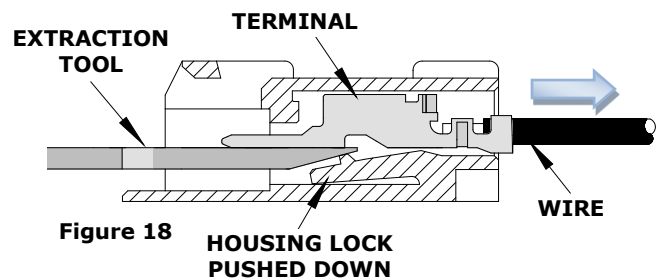

Figure 18
2. While depressing the housing lock, push the terminal back through the connector slot and pull the terminated wire out in the arrow direction. See Figure 18.